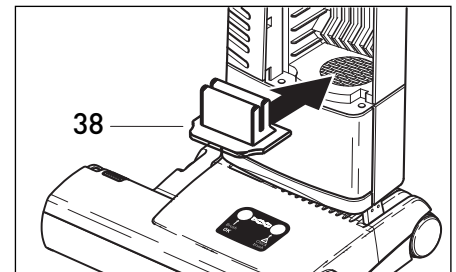

Figure 10
## Changing the Electrostatic Microfilter - Figure 10
3. Microfilter not properly inserted.	3. Reinsert filter making sure filter is properly seated and cover is fully closed (see pg. 10, figure 10).